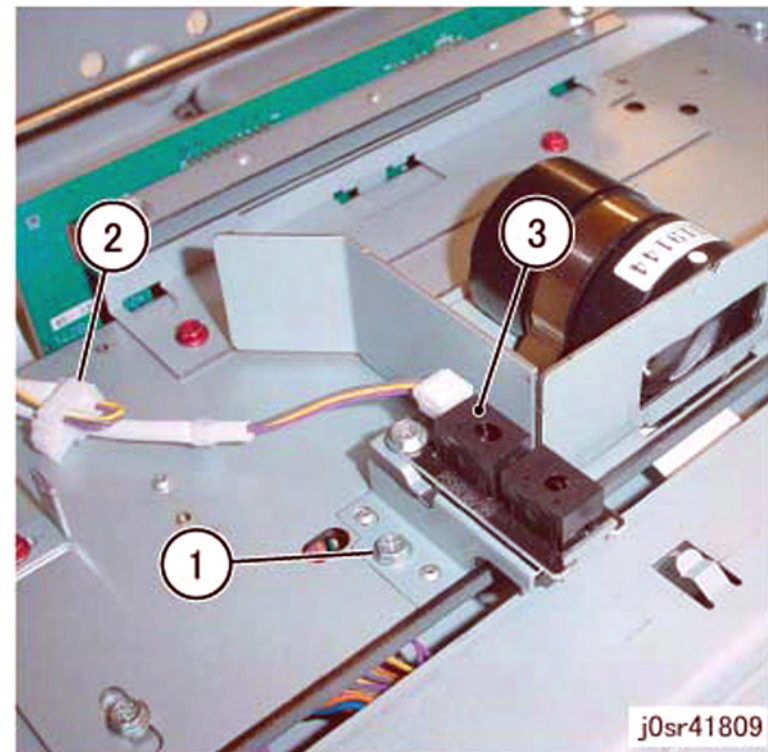

Figure 1 Removing the APS Sensor
3. Remove the APS Sensor (Figure 1).